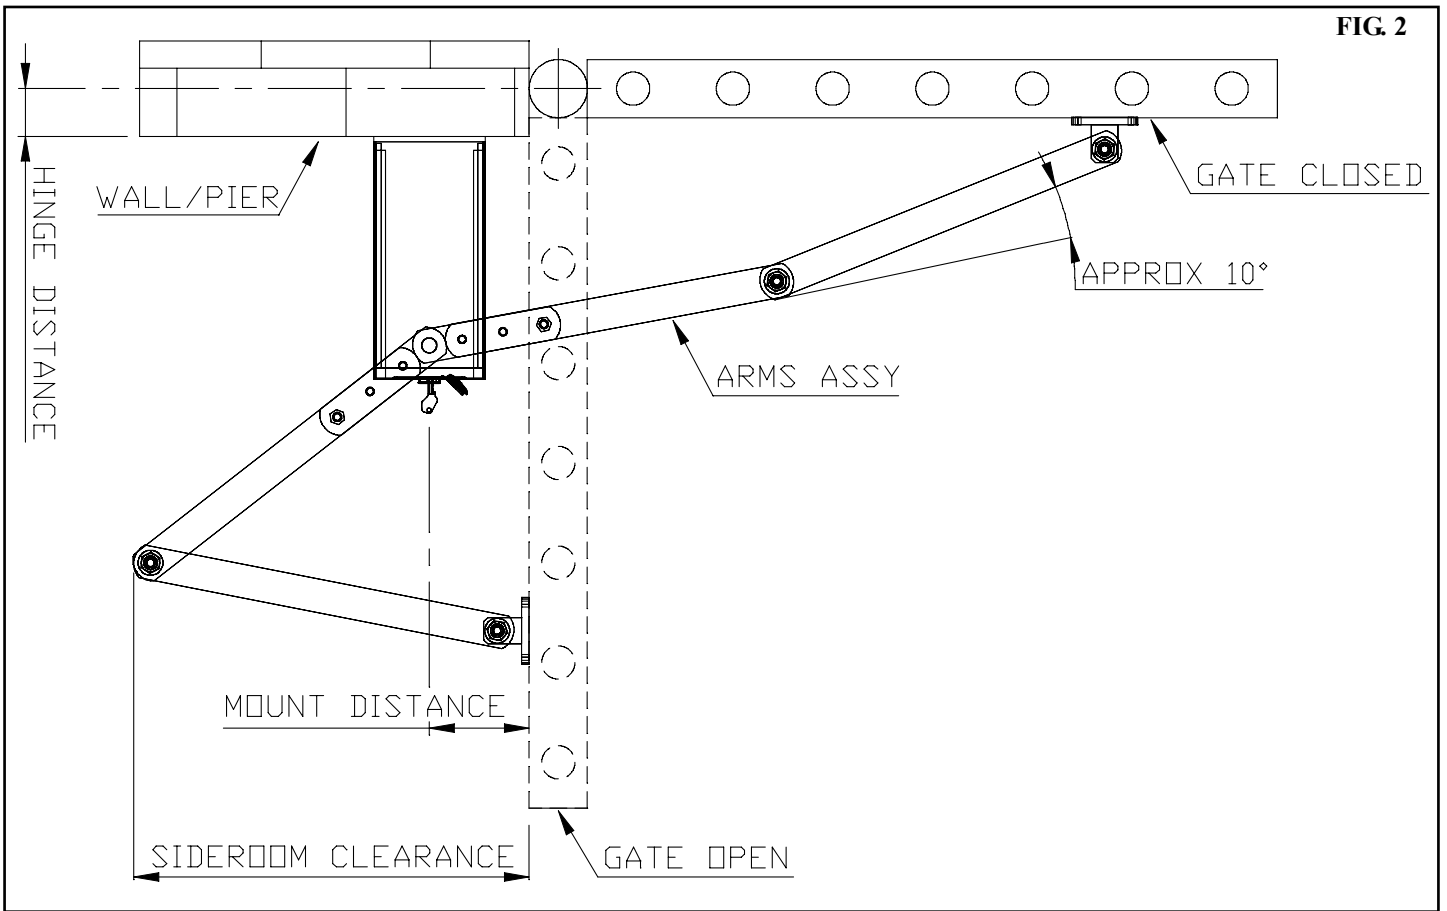

FIG. 2
5. Side room clearance is adequate. Refer to Table 1 and Fig. 2. If there is not enough side room available, the Minimum Side Room Kit (Page 9) is required.